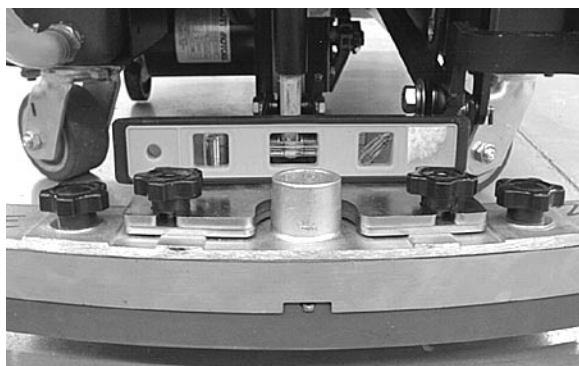

Fig. 28
- e. Place bubble level as shown. Level Squeegee parallel to floor (Figure 28).